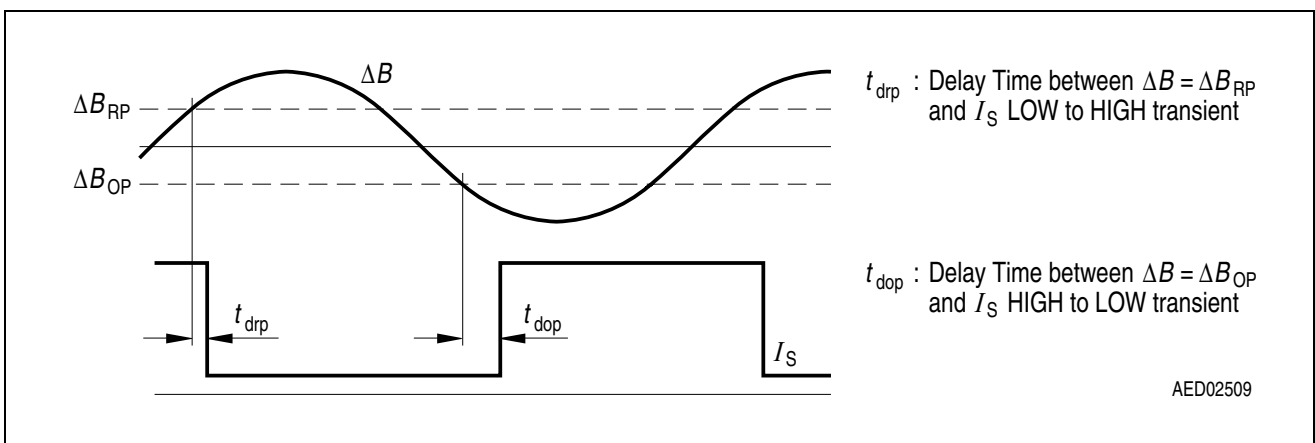

Figure 6 Definition of Delay Times (switching points related to initial measurement @  $\Delta B = 2 \text{ mT}$ ;  $f = 200 \text{ Hz}$ )
- 4) For definition see Figure 6.